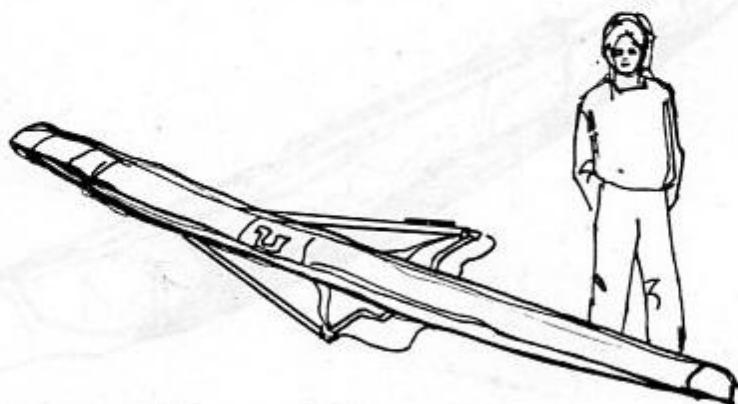

Fig. 5.1.6.
9. Fit the bag over the glider (from the upside) and lay the glider in the bag on the ground (Fig. 5.1.6).